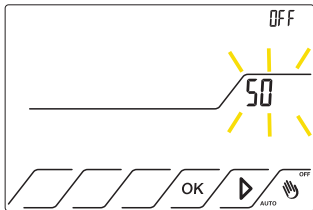

Fig.41
11.1.2 Press  and hold for 3 seconds \Rightarrow . **SO** appears and flashes. **OFF** indicates that the probe is disabled. Fig.41